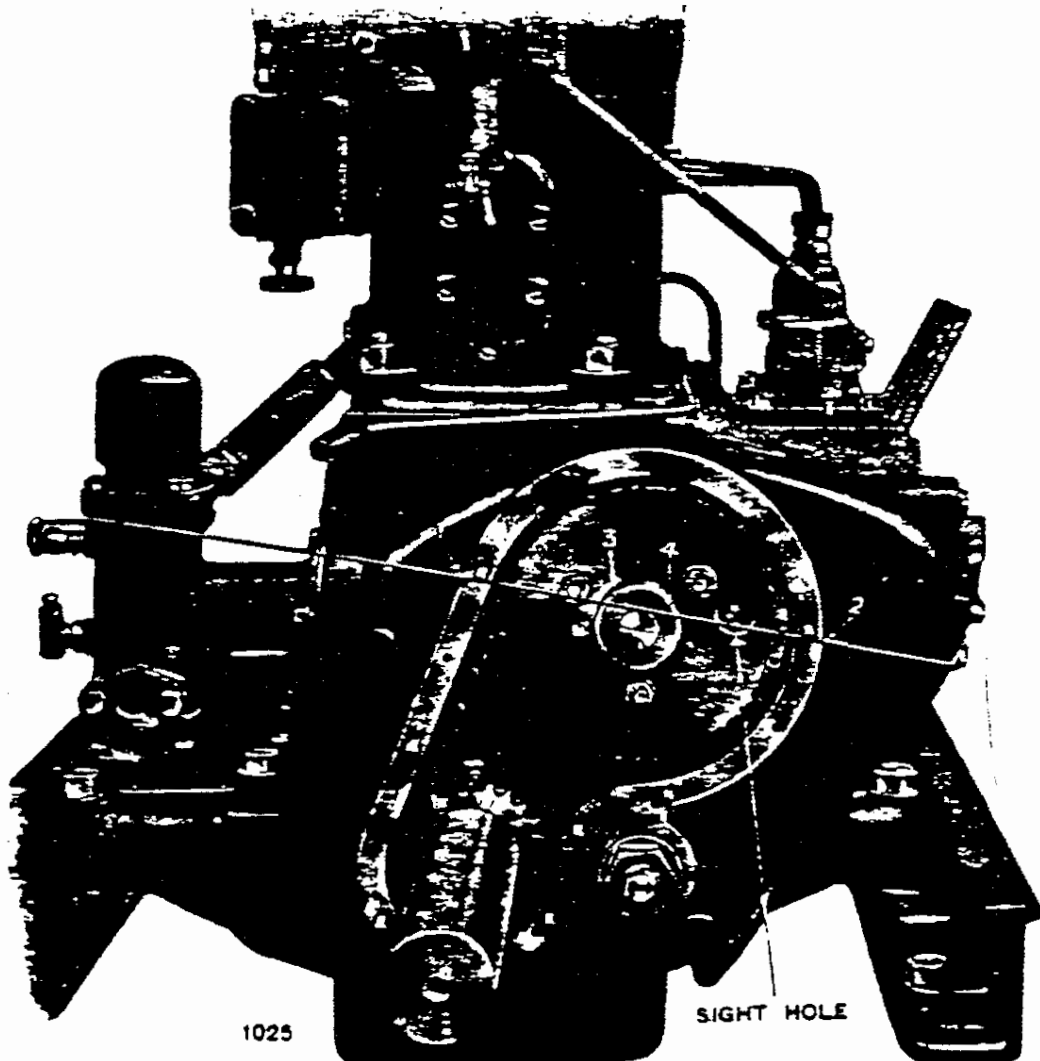

Fig. 13
104. **Timing of Valve and Injection Pump Camshafts.**—Remove the cover from the chain case at the front end of the engine; this will give access to the chain, camshaft chain wheel and fuel pump driving gears (Fig. 13). The chain wheel and valve camshaft gear are bolted together, face to face, by three studs. The stud holes in the chain wheel are elongated to permit a certain small amount of rotation, relative to the camshaft gear, for the purpose of accurate timing. When this timing position has been set by the makers, a marker is inserted in the sight hole and a line forming an arc of a circle inscribed on the camshaft gear. Turn the flywheel until No. 1 crank comes to the T.D.C. after the compression stroke as directed in para. 102. If the timing is correctly set the following events will take place :—
- (1) The dots 1 and 2 on the gear case and the dots 3 and 4 on the periphery of the camshaft chain will all lie on a straight line as indicated by the stretched cord in Fig. 13.
- (2) Through the sight hole in the large chain gear will be visible the teeth of the gears of the valve and fuel-pump camshafts, and it will be found that the dotted tooth of the gear of the valve camshaft lies between the dotted teeth of the fuel-pump camshaft.
- (3) Through the same sight hole will be verified that the lune on the edge of the gear of the valve camshaft (described above) is in its correct position, in which case the lune will not be very conspicuous but should the gears be incorrectly bolted together, the lune will exhibit the defect very conspicuously.
106. **Correction for Stretch (Wear) of Timing Chain.**—In the course of time, the chain wears and consequently increases in length which causes the timing of the valves and fuel injection to become slightly retarded, therefore compensation should be made when required. To this end inspect the timing as indicated in paras. 102 and 103 after, say 1,000 hrs. working, and if it be found that the timing is retarded, proceed as follows: Turn the flywheel until one of the injection timing lines is in line with the zero line on the crankcase, then slacken the three hexagon nuts on the main chainwheel shown in Fig. 13 and rotate the fuel-pump camshaft or the valve camshaft until the lines on the windows of the fuel pump coincide as indicated in para. 103. Check the timing again after tightening the nuts.